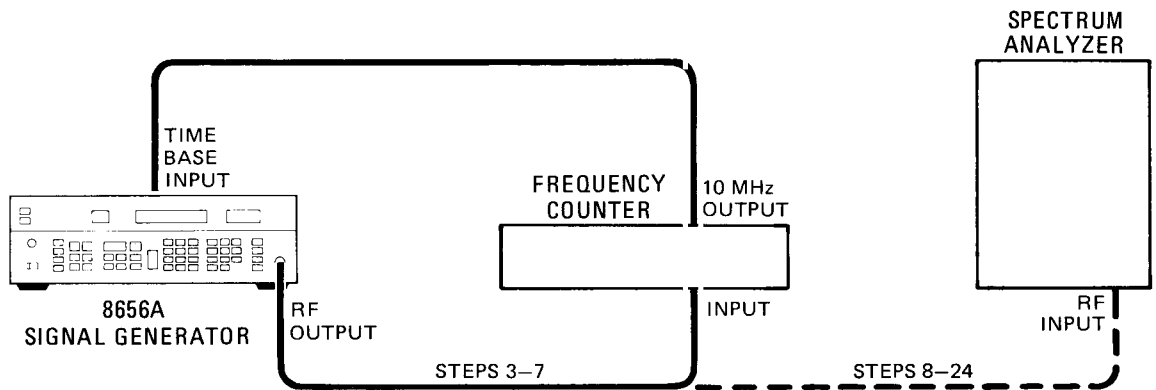

Figure 3-8. Test Setup for Basic Functional Checks
3. Connect the RF OUTPUT of the Signal Generator to the input of the frequency counter and the 10 MHz reference output from the frequency counter to the TIME BASE INPUT located at the rear of the Signal Generator as shown in Figure 3-8.
8. Connect the RF OUTPUT of the Signal Generator to the input of the spectrum analyzer as shown in Figure 3-8.